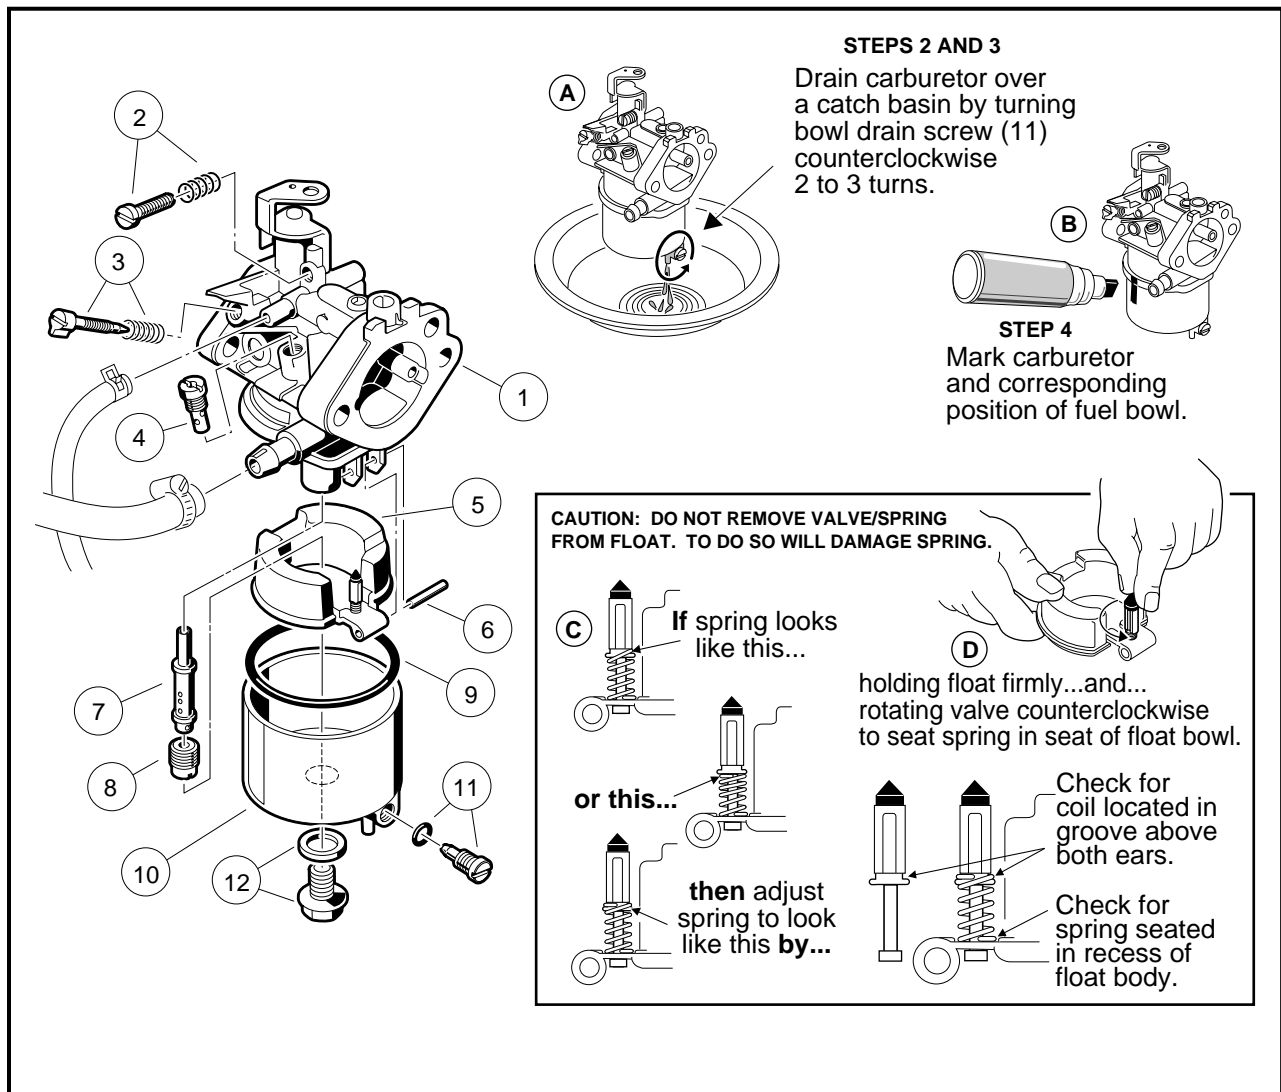

Figure 14-7 Changing the Main Jet
2. Position the carburetor with the drain screw (11) over a catch basin (**Figure 14-7, Page 14-7**).
3. Turn the carburetor bowl drain screw counterclockwise two or three turns and drain all the fuel from the bowl into the catch basin (**Figure 14-7, Page 14-7**). Tighten the drain screw to 10 in-lb (1.1 N-m). Return fuel to the gas tank or dispose of properly.
4. Mark the body of the carburetor and the carburetor fuel bowl with an indelible ink marker so that, after removal, the bowl can be installed again in the same position (**Figure 14-7, Page 14-7**).
- Remove the carburetor fuel bowl retaining screw and washer (12), then remove the fuel bowl (10) and clean it with a nonflammable solvent (**Figure 14-7, Page 14-7**). **See following NOTE.**
NOTE: Make sure the fuel bowl gasket (9) remains properly seated in the carburetor body when the fuel bowl is removed (**Figure 14-7, Page 14-7**).
- Remove the main jet (8) from the carburetor body and discard it (**Figure 14-7, Page 14-7**).
NOTE: Make sure the fuel nozzle (7) does not fall out of the carburetor body after removal of the main jet. This is best accomplished by positioning the carburetor upside down during main jet removal (**Figure 14-7, Page 14-7**).
NOTE: Inspect the main jet nozzle (7), and pilot jet (4) to ensure they are free from contamination. Replace any part that is clogged with contamination. Replace the float if it is damaged, or if the float valve is damaged or worn. Examine the float valve/spring assembly to make sure the spring is installed correctly (**Figure 14-7, Page 14-7**).